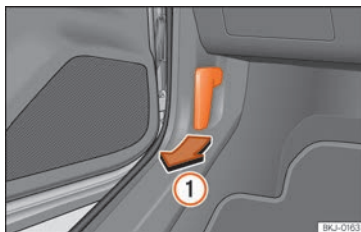

Fig. 190 Release lever in the driver's footwell area.
- Open the door and pull the lever under the dashboard » **Fig. 190 1**.